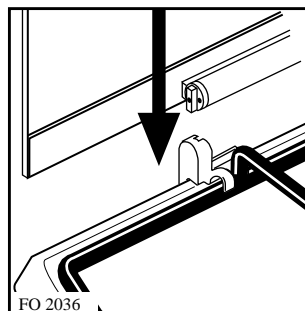

Fig. 11
- Fit the left hand lid hinge (marked S) into the hinge block (fig. 11);